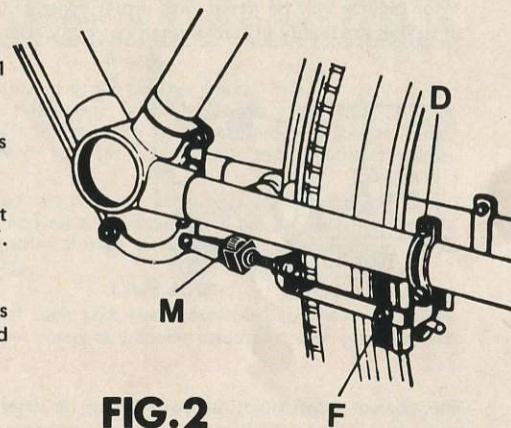

FIG. 2
6. With brake "on" tighten nuts "F", ensuring that blocks fit squarely to rim. Fig. 2.
ON SOME CYCLES THE FINAL ADJUSTMENT IS BY MEANS OF A KNURLED NUT "M" WHICH CAN BE ROTATED TO MOVE THE BLOCKS CLOSER TO OR AWAY FROM THE RIM. Fig. 2.